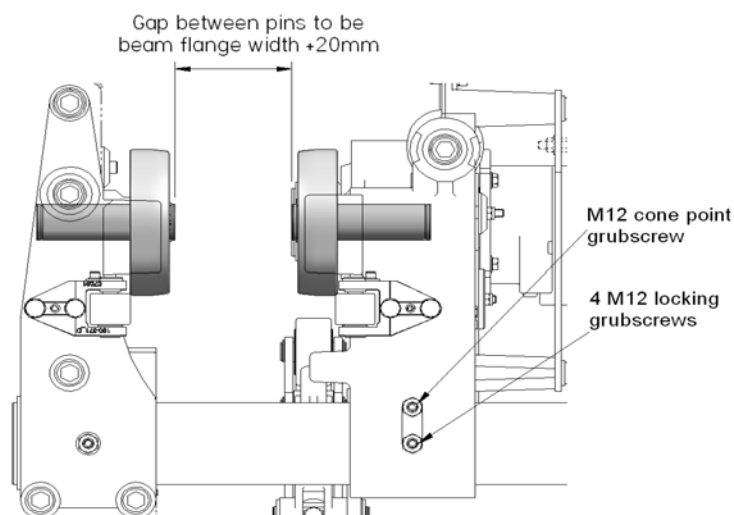

Figure 14 – Installing the Low Headroom Trolley
- Open the trolley frame until the gap between the ends of the wheel axles is at least 20mm wider than the width of the runway flange (see Figure 14). Do not remove the circlips on the ends of the legs.